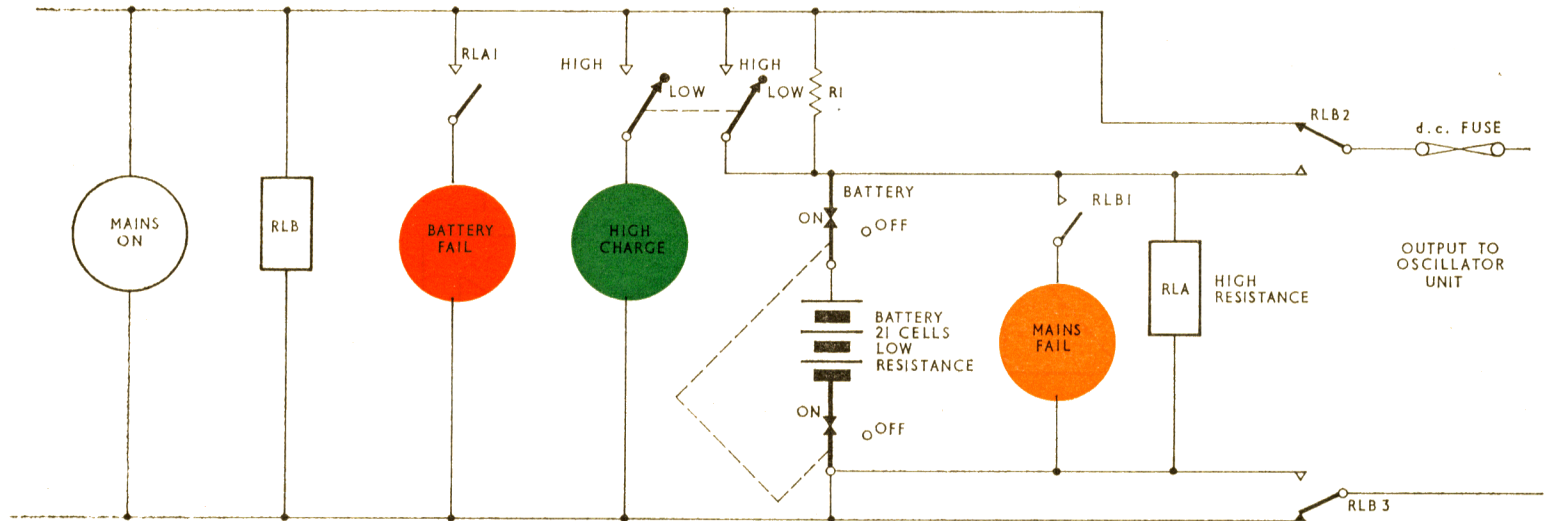

FIG. 3. FSA (3) - LAMP AND RELAY CIRCUITS
10. When the mains switch is set to 'ON', the d.c. output of the rectifier lights the 'MAINS ON' lamp and energises Relay 'B' (Fig. 3). One contact of relay 'B' open circuits the amber 'MAINS FAIL' lamp. Contacts 2 and 3 select the d.c. output to the oscillator unit.
12. In the condition shown in Fig. 3, the battery and Relay A are connected across the rectifier d.c. Relay A is a high resistance relay and will draw little current in comparison with the low resistance of the battery. Relay A will not therefore be energised. If the battery is switched off or removed, relay A will be energised and contact 1 will connect the BATTERY FAIL lamp.